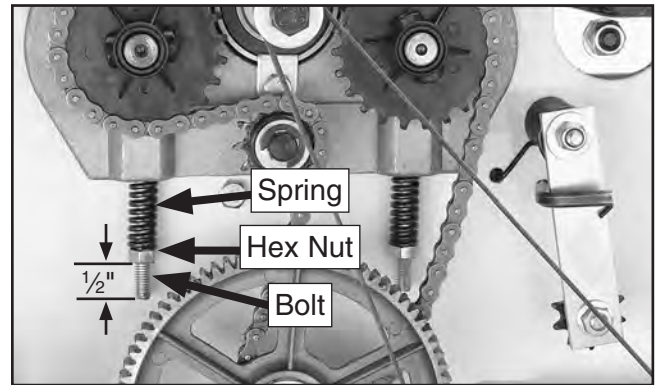

Figure 74. Recommended chain tension setting.
5. Adjust the hex nuts so they are at the recommended factory setting— $\frac{1}{2}$ " (13mm) from the bottom of the feed roller bolts (see **Figure 74**).
12. Re-install the springs and hex nuts onto both sides of the new feed rollers, tightening the nuts until they are ½" (13mm) from the bottom of the bolts, as shown in **Figure 74** on **Page 46**.